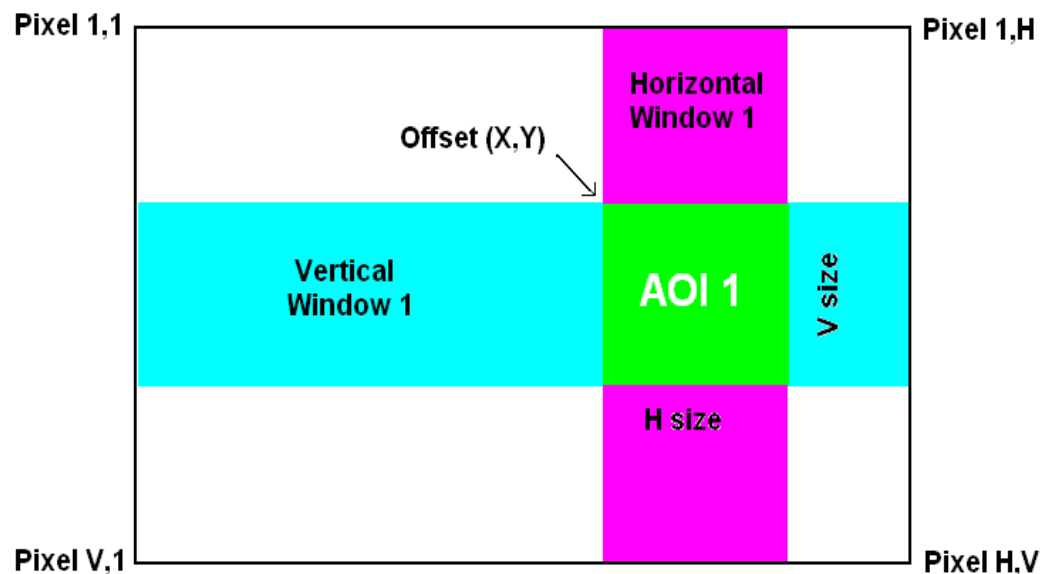

Figure 2.7 – Horizontal and vertical window positioning.
For some applications the user may not need the entire image, but only a portion of it. To accommodate this requirement BOBCAT provides total of 8 (eight) Horizontal and Vertical Areas of Interest (AOI) – one Master, 6 Slave and one Processing. The starting and ending point for each AOI can be set independently in horizontal direction (Horizontal Window) and vertical direction (Vertical Window), by setting the window (H & V) offset and (H & V) size – Figure 2.7. The minimum window size is one pixel/line for single mode and two pixels/lines for dual mode. The maximum horizontal window size (H) and the vertical window size (V) are determined by image full resolution as shown in Table 2.1, and the selected size of LVAL and FVAL.